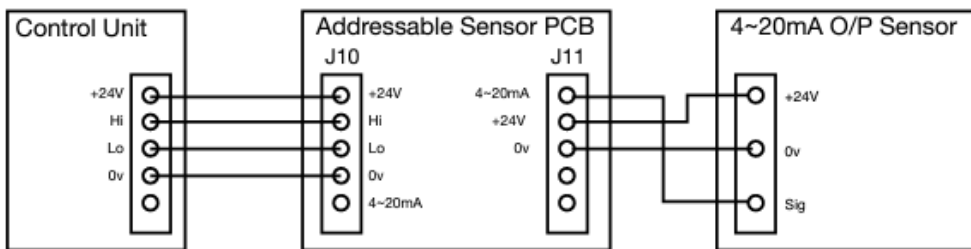
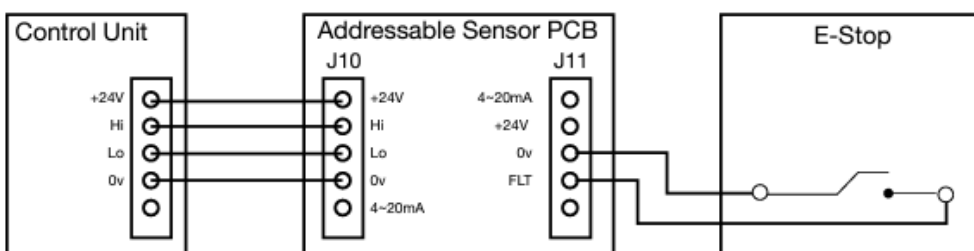

FIG.2
FIG.4
2. Connect external 4~20mA source to the 4~20mA input terminal (J11) on the right hand side of the board as shown in Fig. 2 (For call point/E-Stop see Fig.4)
3. Connect terminal J10 as shown in Fig.2